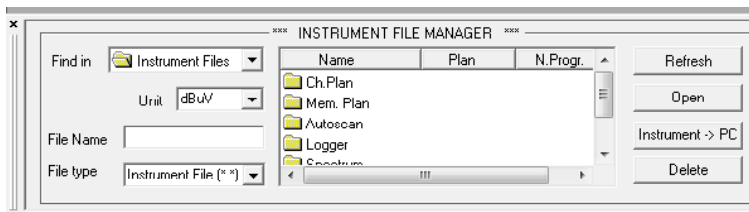

Fig.11 Instrument File manager output
- ii. The complete memory download will be made, and files listed on screen (ref. Fig.11),